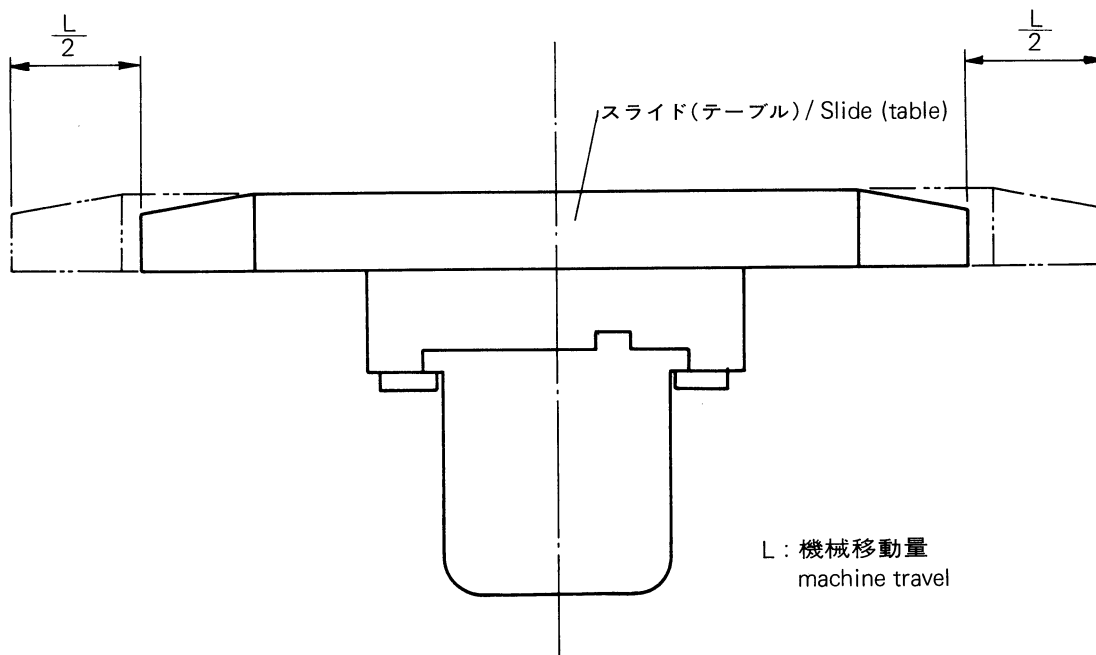

Fig. 3 テーブルのセット(移動量の中心に)
- 機械の移動量の中心にスライド（テーブル）をセットして下さい。(Fig 3)
Center the slide(table) of the machine in the range of machine traverse as shown in Fig. 3. Check the dimensions of the unit to be installed, referring to the Fig. 6 and Table 1. Determine the "mounting position" of the scale, considering and avoiding the interference from the lever-handle etc. of the machine. This step will be facilitated if the scale unit is on hand: you can examine the actual positional relation between the scale unit and the machine.